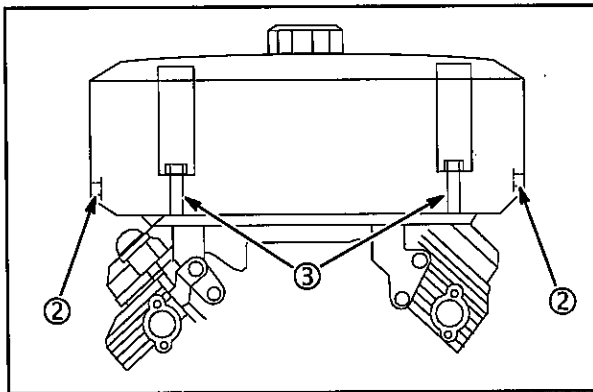

Fig. 6
5. Connect the fuel line to the carburetor. Install the fuel tank. Torque screws (2) and shoulder bolts (3) (PTO side) to **140 in. lbs. (16 Nm)**, **Fig. 6**.